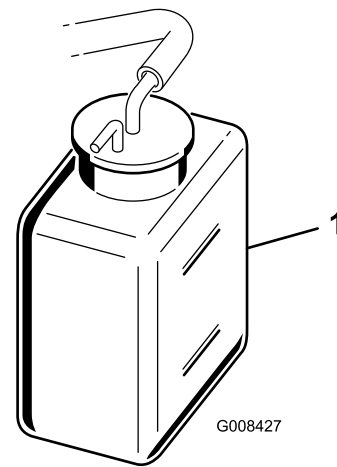

Figure 28
2. Check the coolant level (Figure 28).